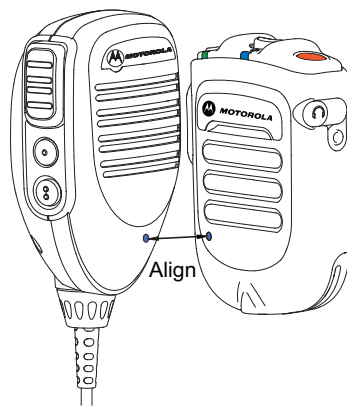

Figure 2.10: Pairing your WRSM
- 2 Place the blue dot (secure pairing spot) on the WRSR within one inch of the blue dot (secure pairing spot) on the Mobile Mic Gateway. Refer to Figure 2.10.